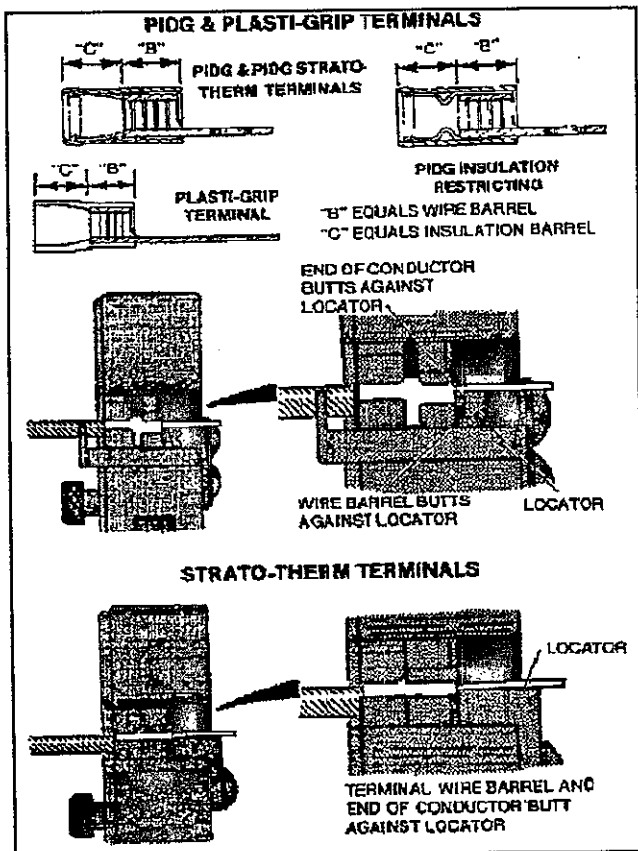

Fig 2
2.2.1 Terminals (Refer to Figure 2)
- (b) Position terminal or splice in crimping dies as shown in Figure 2 or 3 to hold terminal or splice in place.
- (c) Insert UNSTRIPPED wire into ONLY the insulation barrel (see Figure 2 or 3) of the terminal or splice.